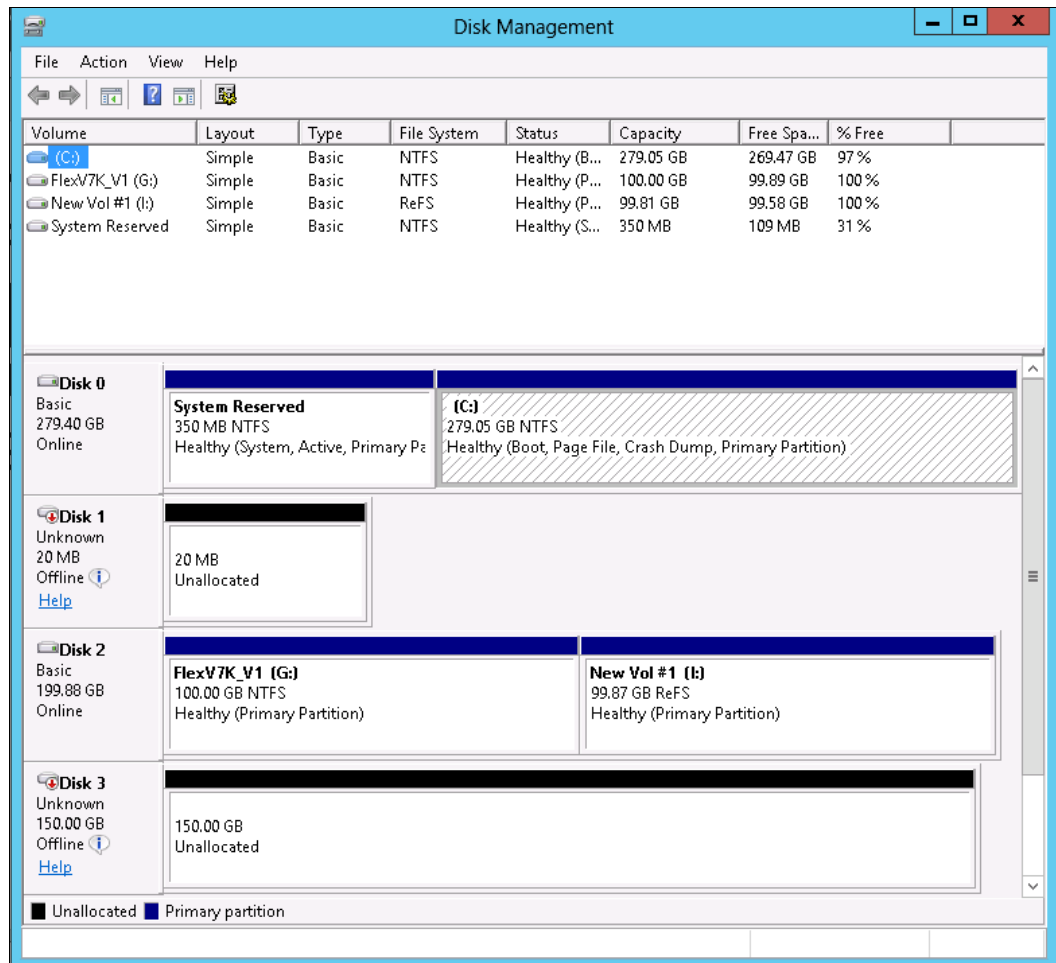

Figure 12-6 Windows Disk Management
- The output provides information about the connected volumes. In our example, there are two disks connected, Disks 2 and 3 for the Windows host, and four paths to each disk are available (State = Open). This indicates that the SAN zoning has been set up correctly. Open the Windows Disk Management window (Figure 12-6) by entering the command `mmc diskmgmt.msc` from the Windows PowerShell command prompt. Figure 12-6 shows the Disk Management window with the newly added Disk 3 presented, awaiting to be allocated and used by Windows.